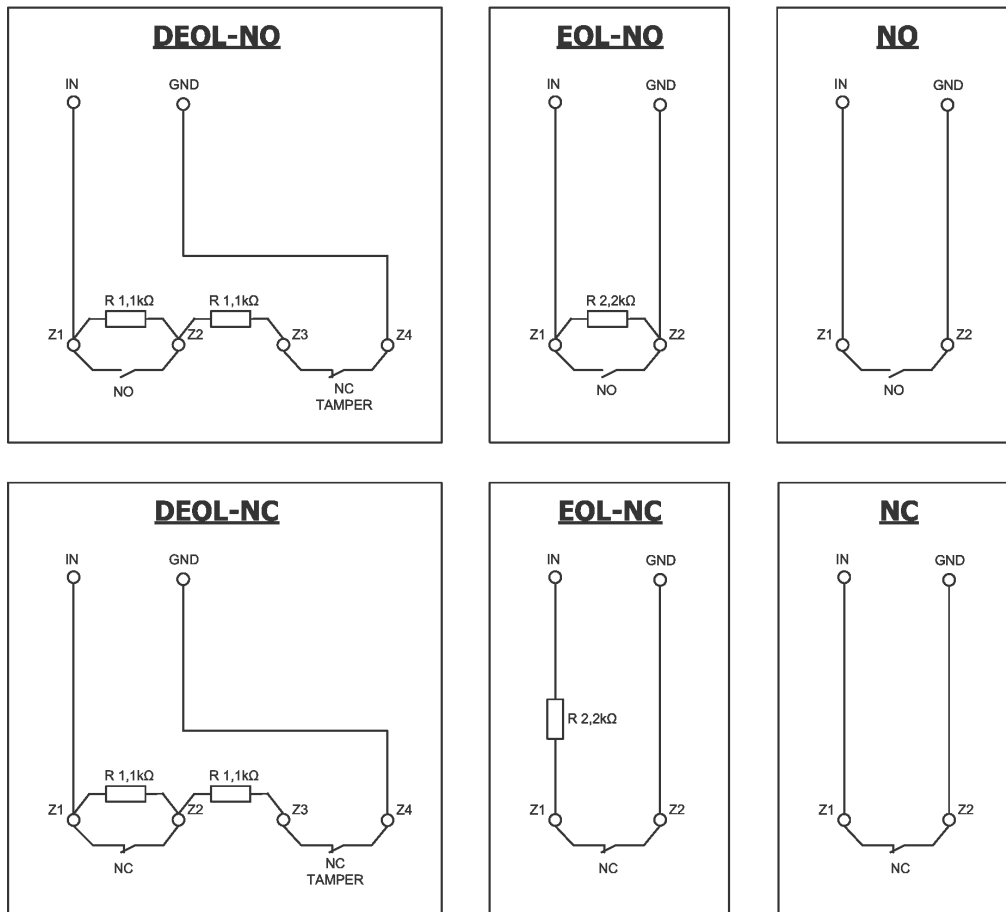

Fig. 6. Examples of connecting sensors to the inputs in various configurations
Inputs IN1 – IN5 might work as normally closed (NC) or normally open (NO). Additionally inputs might be configured as single end-of-line (EOL-NO or EOL-NC) with resistors $2.2\text{k}\Omega$ or as double end-of-line (DEOL-NO or DEOL-NC) with resistor $1.1\text{k}\Omega$. Examples of connecting sensors to the inputs in various configurations are shown in figure 6.